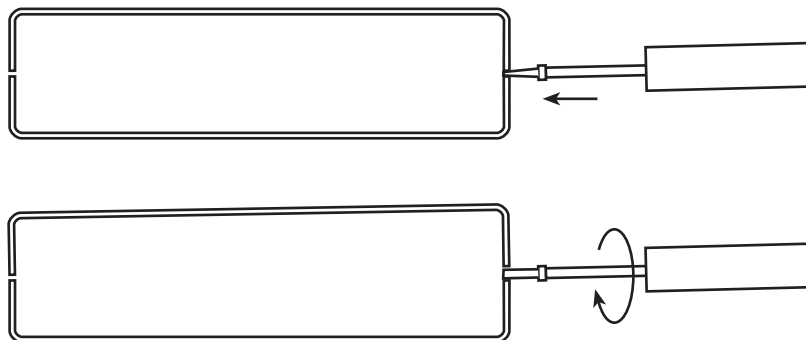

Figure 6. Case being opened with screwdriver
1. Open the 3086's case by inserting a screwdriver into the slots and twist the screwdriver head slightly. The top half of the case will separate from the lower half of the case (see Figure 6). Take caution not to damage any of the PC board mounted components.